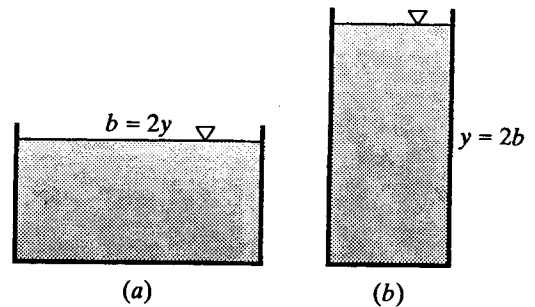

Figure X10.6.2
10.6.2 A rectangular flume of planed timber ( $n = 0.012$ ) slopes 0.5 ft per 1000 ft. (a) Compute the rate of discharge if the width is 7 ft and the depth of water is 3.5 ft (Fig. X10.6.2). (b) What would be the rate of discharge if the width were 3.5 ft and the depth of water 7 ft? (c) Which of the two forms would have the greater capacity and which would require less lumber?